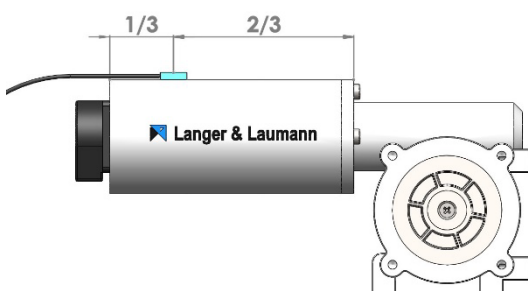
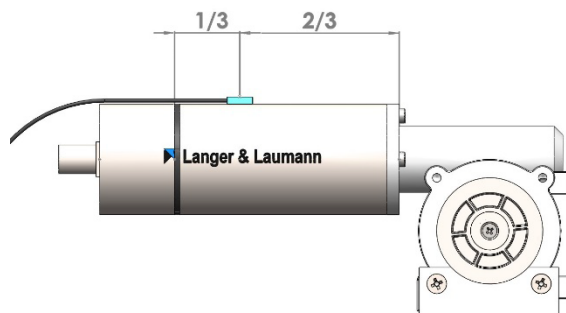

Abb. 2: position on the motor
Abb. 3: position on the motor
2. Clean the place on the TSG motor to which the TSG motor temperature detector is glued (see Abb. 2 and Abb. 3: position on the motor / page 5).